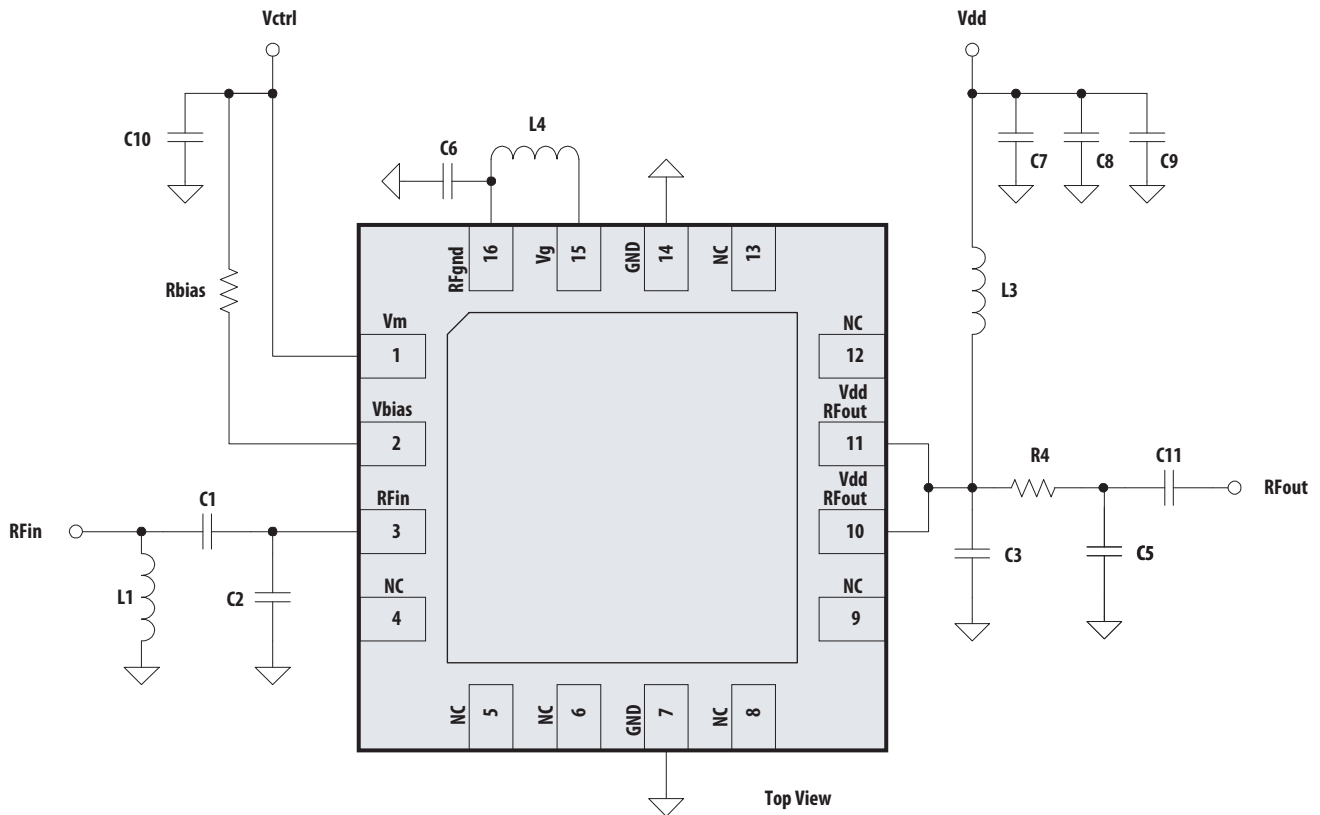

Figure 6. Demo board and application schematic
4. Measurements at 3.5GHz obtained using demo board described in Figure 6 and 7.